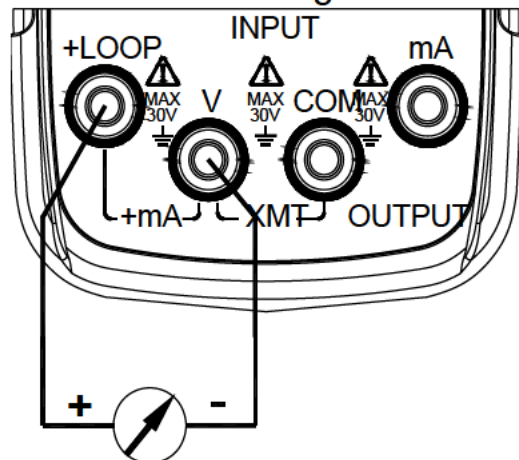

Figure 5-1
- 1) Insert one end of the test leads to the + mA – output jack ( OUTPUT ) of the Instrument and connect the other end with the input of the user's Instrument as shown in Figure 5-1:
- 1) Connect to the Instrument as shown in Figure 5-1;
- 6) Repress the key (25%/RAMP) so as to exit the step current output.
- 3) Press the key (100%/START) and the symbols 'F', 'π', '0', 'FS' will appear in the display;
- 5) Repress the key (100%/START) so as to exit the step current output.
- 1) Connect as shown in Figure 5-1;
- 4) Repress the key (25%/RAMP) again so as to